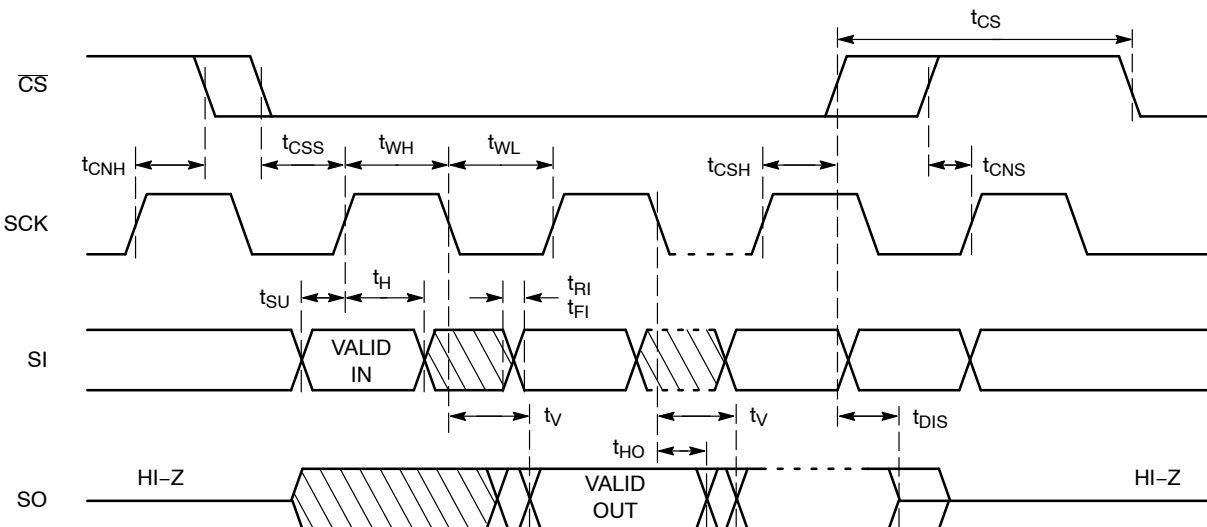

Figure 2. Synchronous Data Timing
9. **All Chip Select (CS) timing parameters are defined relative to the positive clock edge (Figure 2). t_{CSH} timing specification is valid for die revision D and higher. The die revision D is identified by letter “D” or a dedicated marking code on top of the package. For previous product revision (Rev.C) the t_{CSH} is defined relative to the negative clock edge.**
After a high to low transition on the \overline{CS} input pin, the CAT25128 will accept any one of the six instruction op-codes listed in Table 10 and will ignore all other possible 8-bit combinations. The communication protocol follows the timing from Figure 2.